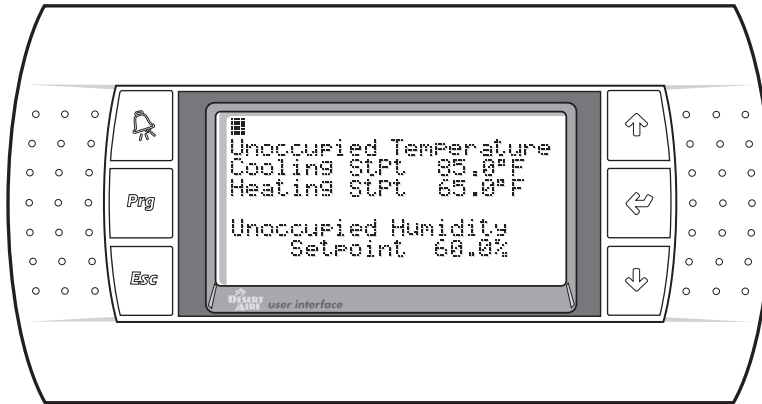

Figure 31
2.4.6. Unoccupied Settings (Figure 31)